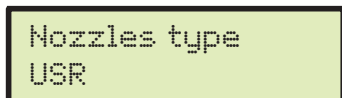

Fig. 60
- First select Nozzles type (ISO or USR, Fig. 60).